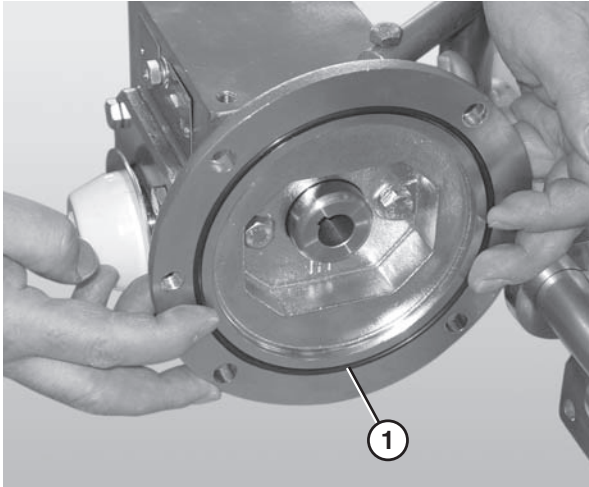

Figure 34
Ensure the O-ring (Figure 34, item 1) and gearmotor output shaft key (Figure 33, item 1) are situated properly before attaching the motor to the gear reducer.